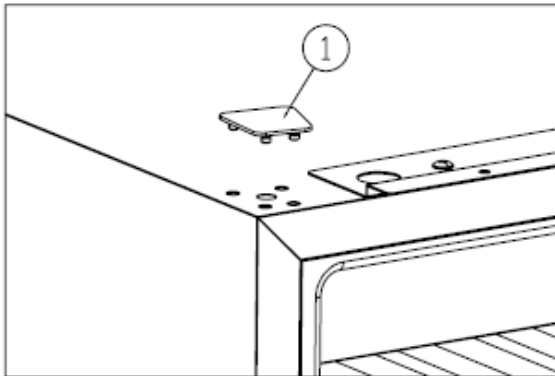

Figure 3
Enlever le cache (1). [Figure 3]